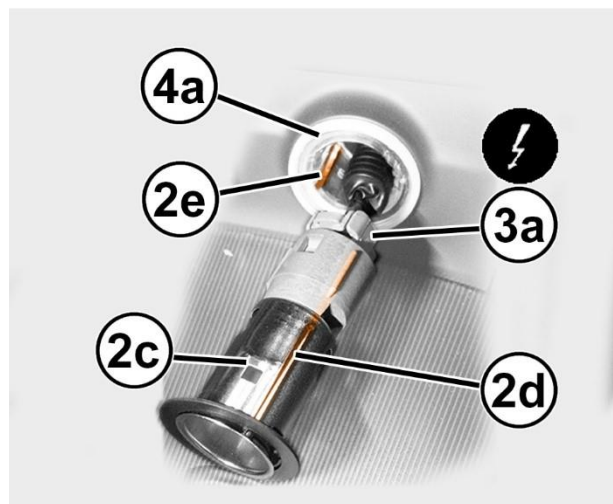

Figure 5 – Power Socket
12. Open the cover (1a) of the power socket (Figure 5).
13. Engage the power outlet remover tool 9857 (2a) in the recesses (2b) of the power socket and carefully extract the power socket (2c). During the removal of the power socket (2c), its ridges (2d) must slide in the housing (2e) (Figure 5).
14. Disconnect the electrical connection (3a) and remove the power socket (2c) without removing the ring (4a) (Figure 5).